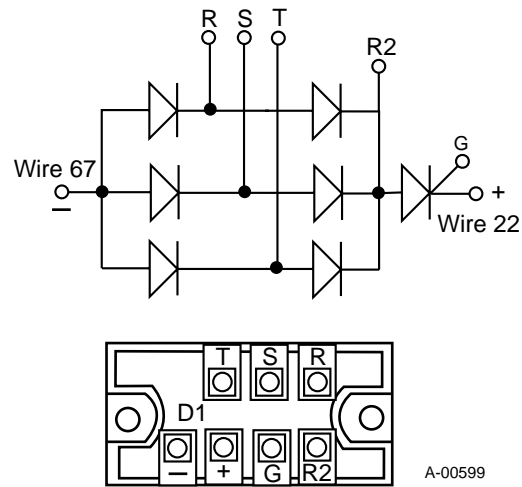

Figure 4-3 Testing Input Diode (D1) Assembly
3. The input diode (D1) assembly contains six standard diodes and a SCR used for the inrush circuit. The diodes are connected to form a three phase full wave circuit with three diodes connected to the negative terminal and three connected to the R2 terminal. Test each diode in the forward (R2 to R, S, T) and reverse (- to R, S, T) direction as shown in Figure 4-3. A properly functioning diode conducts in the forward direction (plus to negative) and blocks in the reverse direction (negative to plus).